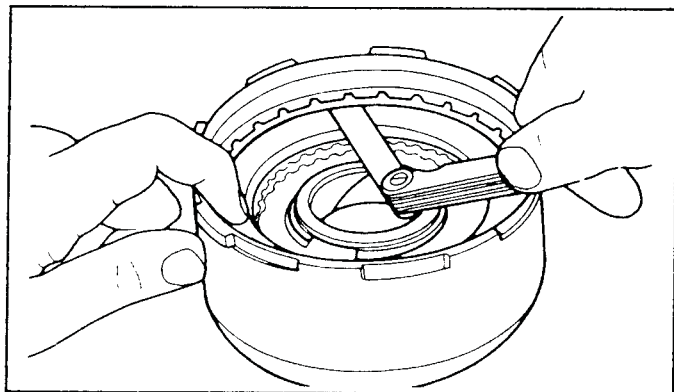

FIG. 46 Checking Reverse-High Clutch Snap Ring Clearance
8. With a feeler gauge, check the clearance between the pressure plate and snap ring (Fig. 46).